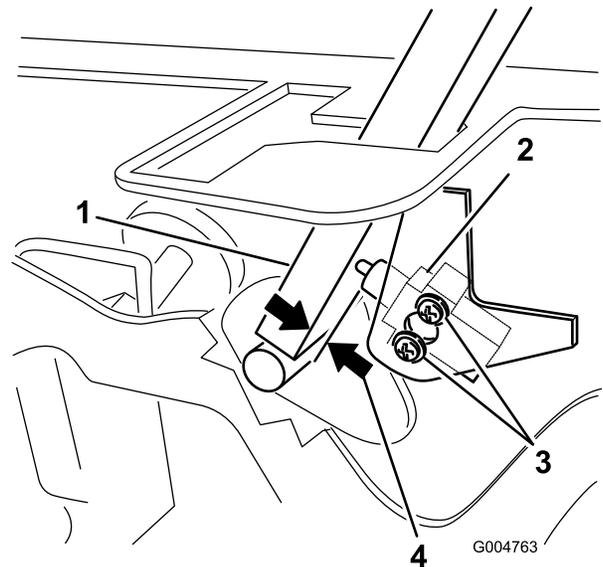

Figure 54
3. Loosen the 2 screws securing the interlock switch (Figure 54).
4. Holding the control lever against the frame, move the switch toward the lever until the distance between lever and switch body is 0.4 to 1 mm (0.015 to 0.045 inch) (Figure 54).